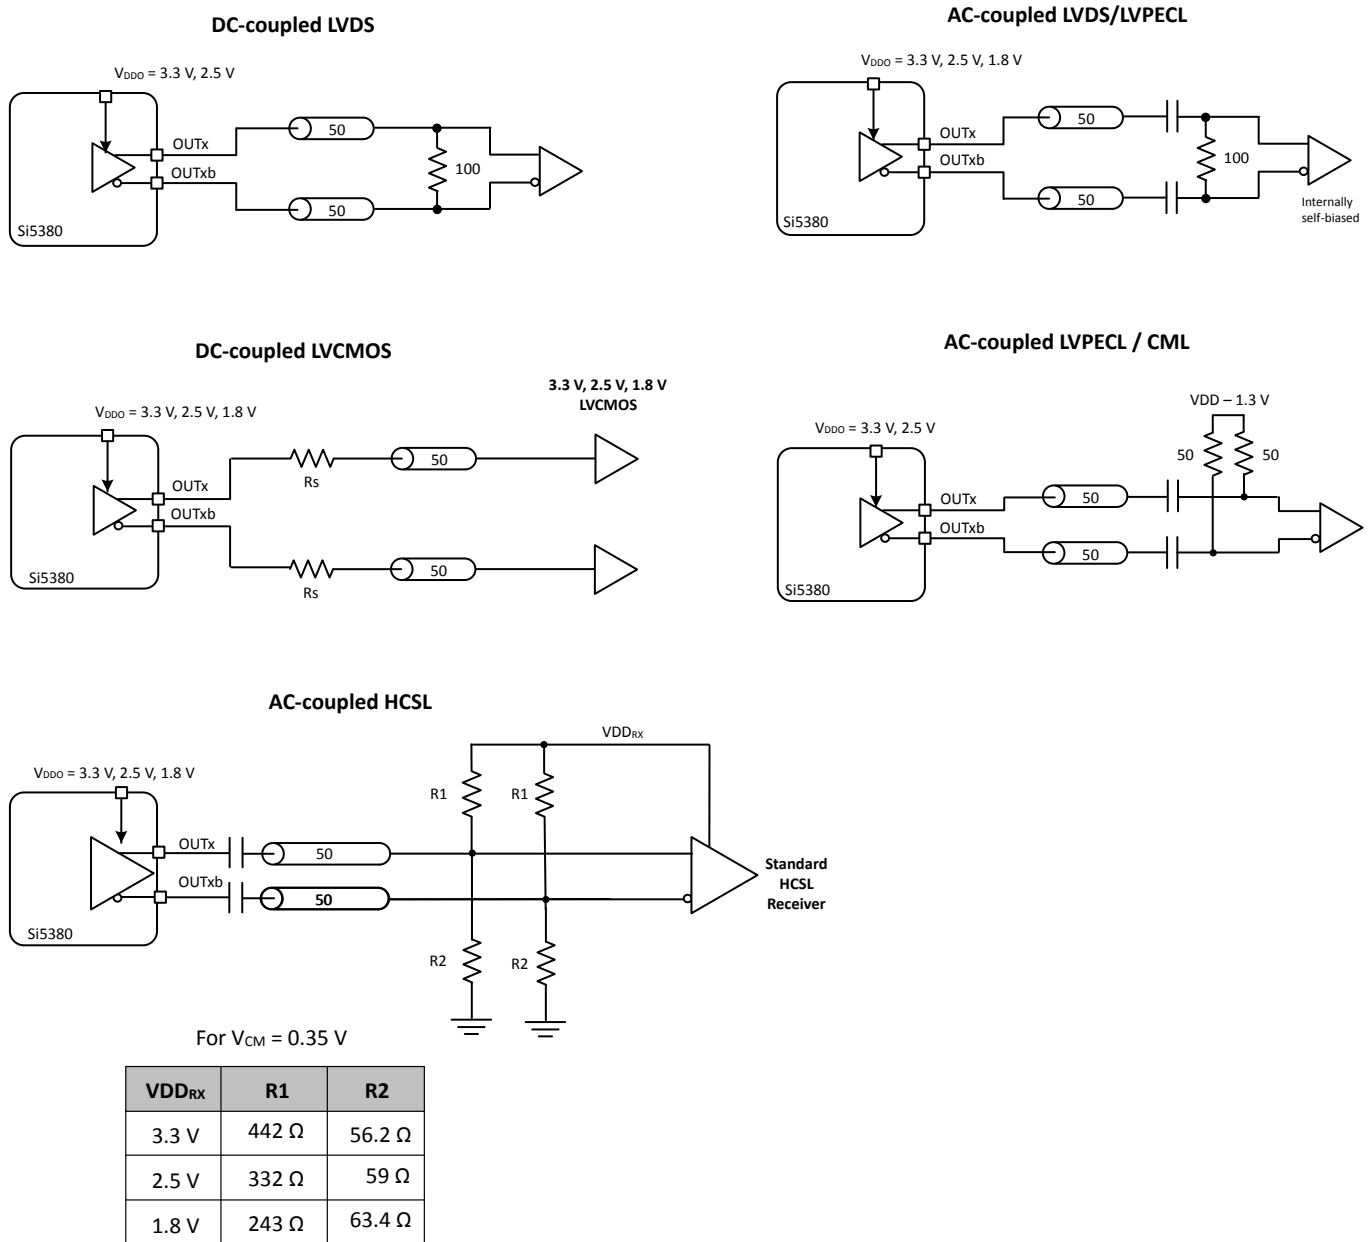

Figure 3.14. Supported Output Terminations
- Differential Normal Mode:** When an output driver is configured in normal amplitude mode, its output amplitude is selectable as one of 8 settings ranging from 130 mVpp_{se} to 920 mVpp_{se} in increments of 100 mV. The output impedance in the normal mode is 100 Ω differential. Any of the ac-coupled terminations shown in Figure 3.14 Supported Output Terminations on page 15 are supported in this mode.
- Differential Low Power Mode:** When an output driver is configured in low power mode, its output amplitude is configurable as one of 8 settings ranging from 200 mVpp_{se} to 1600 mVpp_{se} in increments of 200 mV. The output driver is in high impedance mode and supports standard 50 Ω PCB traces. Any of the ac-coupling terminations shown in Figure 3.14 Supported Output Terminations on page 15 are supported in this mode.